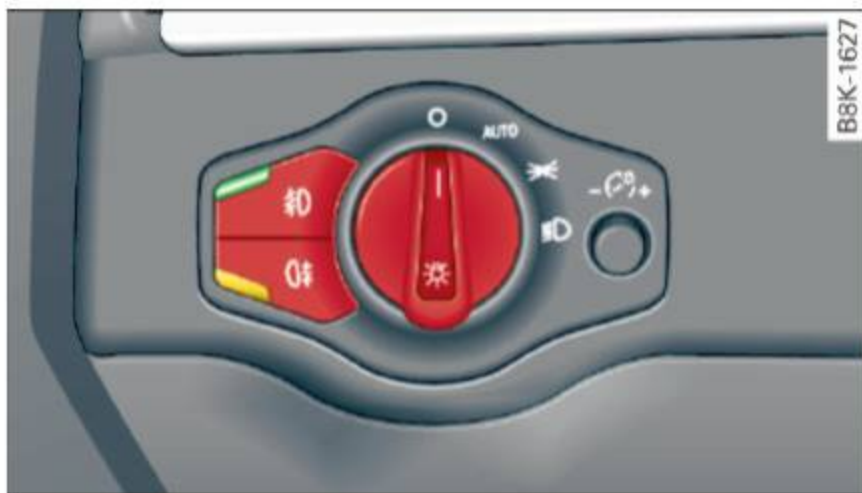

Fig. 36 Instrument panel: headlight control switch
Turn the switch ⇒ *fig. 36* to the corresponding position. When the lights are switched on, the ☀ symbol turns on.
- **USA models:** The daytime running lights are activated when the light switch ⇒ *fig. 36* is in the **0** position or the **AUTO** position (only in daylight conditions). The daytime running lights function can be turned on and off in the radio or MMI* menu **Exterior lighting** ⇒ *page 43*, ⇒ ⚠.
- **Canada models:** The daytime running lights are activated when the light switch ⇒ *fig. 36* is in the **0** position, ☀ position or the **AUTO** position (only in daylight conditions). The daytime running lights function cannot be turned off ⇒ ⚠.
Press the appropriate button ⇒ *fig. 36*:
The **coming home** and **leaving home** functions only operate when it is dark and the light switch is in the AUTO position ⇒ *page 42, fig. 36*.